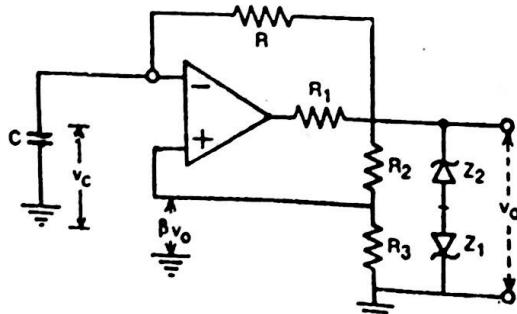

Fig. 26. Astable multivibrator.
(10) ASTABLE MULTIVIBRATOR: The operational amplifier operating as free running (astable) multivibrator is shown in fig. 26. In free running multivibrator, there are two states which remain